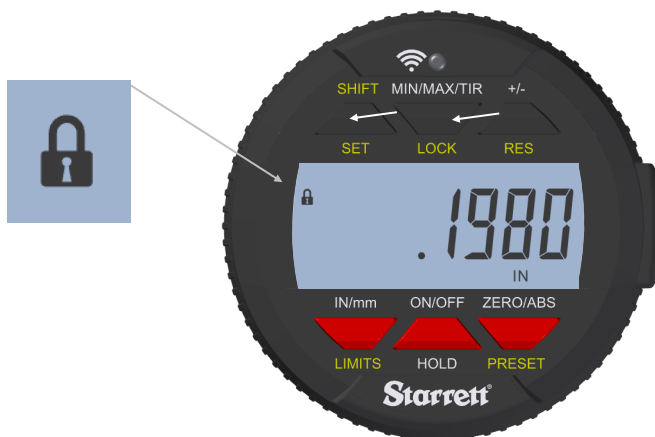

Fig. 8C
2. The Lock icon will turn on and stay on Fig.8C. Once the lock mode has been activated, the operator will not be able to change ABS/Normal Mode, Limits, Units, PRESET, or MAX/MIN/TIR. The operator will have access to the zero function and viewing of the MIN/MAX/TIR readings.